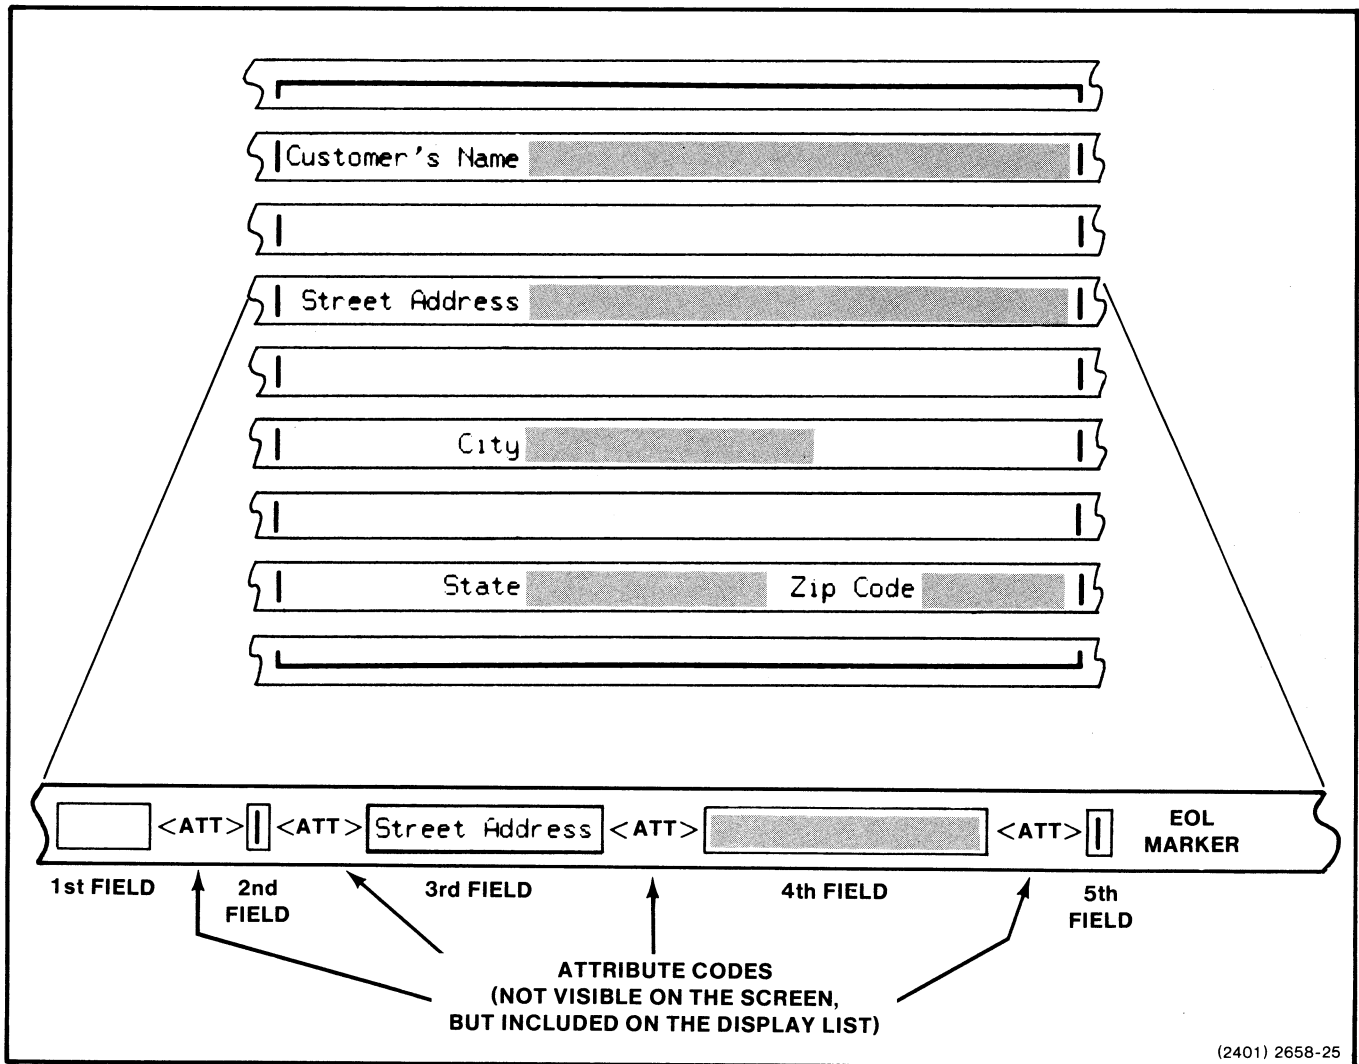

Figure 7-2. Position of Attribute Codes in a Display List.
- Markers, called "attribute codes," that divide a line into fields and determine the properties (attributes) of those fields. (Figure 7-2.)